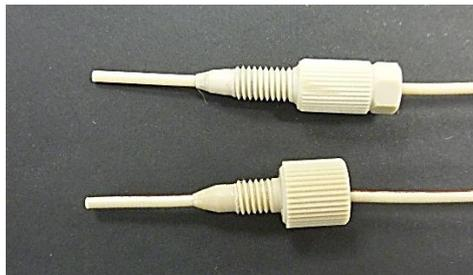

Figure 12. Assembly of a bulkhead (bottom) and narrow (top) PEEK connector onto a 1/16" OD PEEK tubing.
Be aware that there are different shapes of connectors (Figure 12). Always use the correct nut and ferrule in the designated inlet/outlet port.
- Slide the connector over the tube end (as in Figure 12).